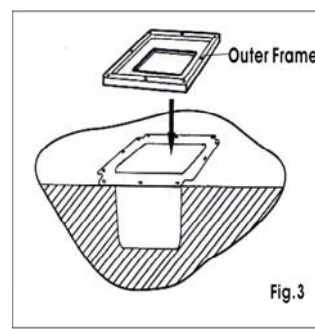
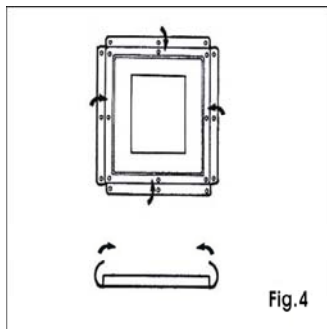
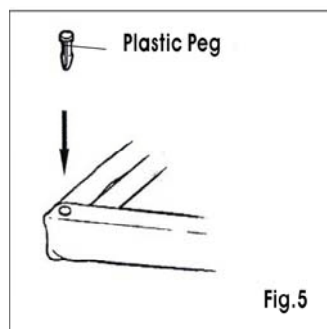

Fig.3
Fig.4
Fig.5
- Place the Outer Frame on the top of the edges of the PVC Liner Basin so that it is centered on the hole (Fig. 3). Fold the edges of the PVC Liner Basin onto the Outer Frame (Fig. 4). Align the holes in the edges of the PVC Liner Basin with the holes in the Outer Frame and use the Plastic Pegs to secure the PVC Liner Basin (Fig. 5).